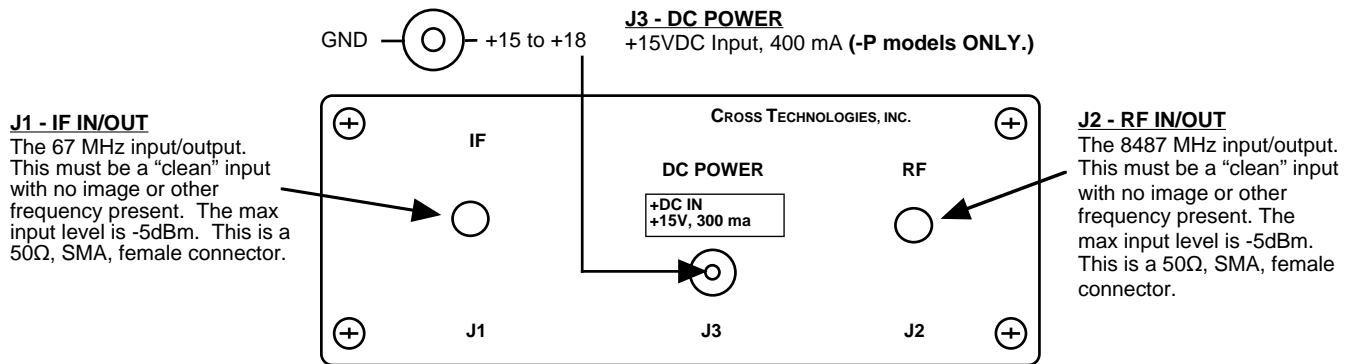

FIGURE 2.3 Model 2009-8487P Rear Panel Inputs and Outputs
Figure 2.3 shows the input and output signals to the 2009-8487P.
1. For Option **-P** models, connect one end of the Wall Power Supply to the 2009-8487P DC Power In, J3, and the other end to 115 VAC, 60 Hz (Figure 2.3).
2. Connect a -5 dBm, maximum, signal to IF IN, J1 or RF IN, J2 (Figure 2.3).
3. Connect the IF OUT, J2, to the receiver under test (Figure 2.3).